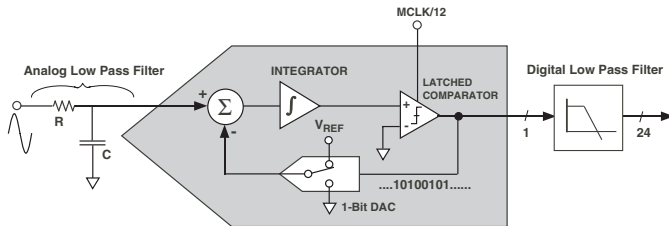
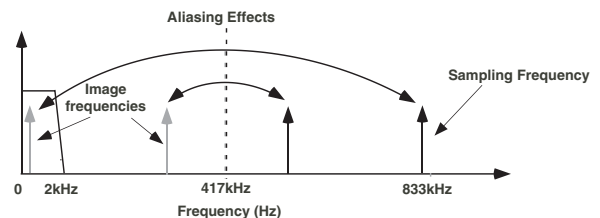

Figure 5 - First order Sigma-Delta ( $\Sigma-\Delta$ ) ADC
Figure 7– ADC and signal processing in current channel or voltage channel
The analog-to-digital conversion in the ADE7754 is carried out using second order sigma-delta ADCs. The block diagram in Figure 5 shows a first order (for simplicity) sigma-delta ADC. The converter is made up of two parts, first the sigma-delta modulator and secondly the digital low pass filter.
Figure 5 also shows an analog low pass filter (RC) on the input to the modulator. This filter is present to prevent aliasing. Aliasing is an artifact of all sampled systems. Basically it means that frequency components in the input signal to the ADC which are higher than half the sampling rate of the ADC will appear in the sampled signal at a frequency below half the sampling rate. Figure 7 illustrates the effect, frequency components (arrows shown in black) above half the sampling frequency (also know as the Nyquist frequency), i.e., 417kHz get imaged or folded back down below 417kHz (arrows shown in grey). This will happen with all ADCs no matter what the architecture. In the example shown it can be seen that only frequencies near the sampling frequency, i.e., 833kHz, will move into the band of interest for metering, i.e, 40Hz - 2kHz. This fact allows us to use a very simple LPF (Low Pass Filter) to attenuate these high frequencies (near 900kHz) and so prevent distortion in the band of interest. A simple RC filter (single pole) with a corner frequency of 10kHz produces an attenuation of approximately 40dBs at 833kHz—see Figure 7. This is sufficient to eliminate the effects of aliasing.